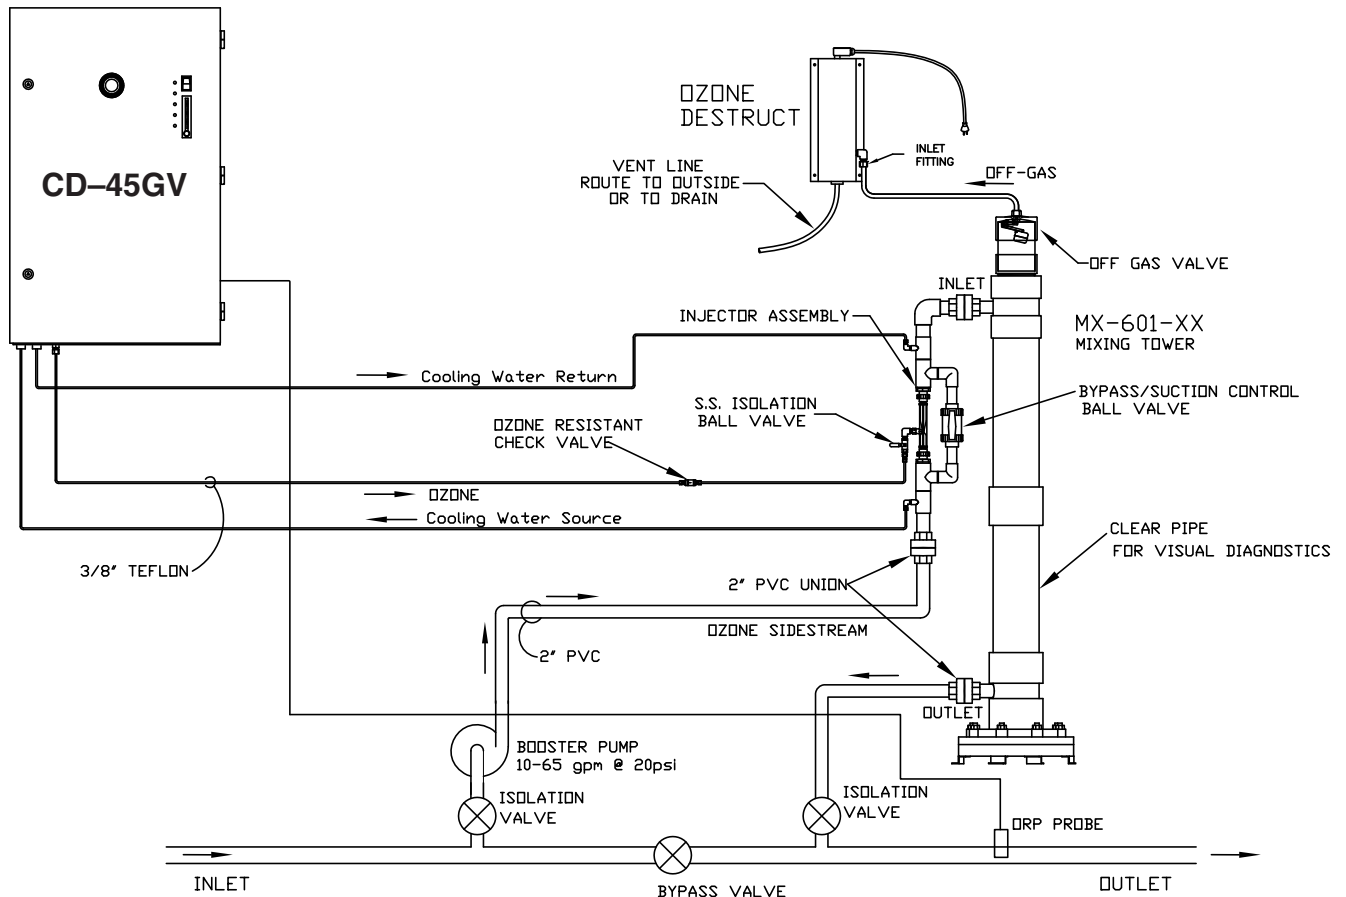

Figure 2: Plumbing Schematic - Example of Swimming Pool Application
2. Connect opposite end of ozone tubing to injector suction port. (Suction port fitting: 3/8" stainless steel compression fitting.) *See Figure 2.*
1/4" FPT connections are supplied on the generator. *See Figure 2.* Be sure that the tubing is appropriately matched with the marked inlet and outlet ports. Carefully match and connect to water plumbing as shown in Figure 2. Alternate method using connections at injector may be used.